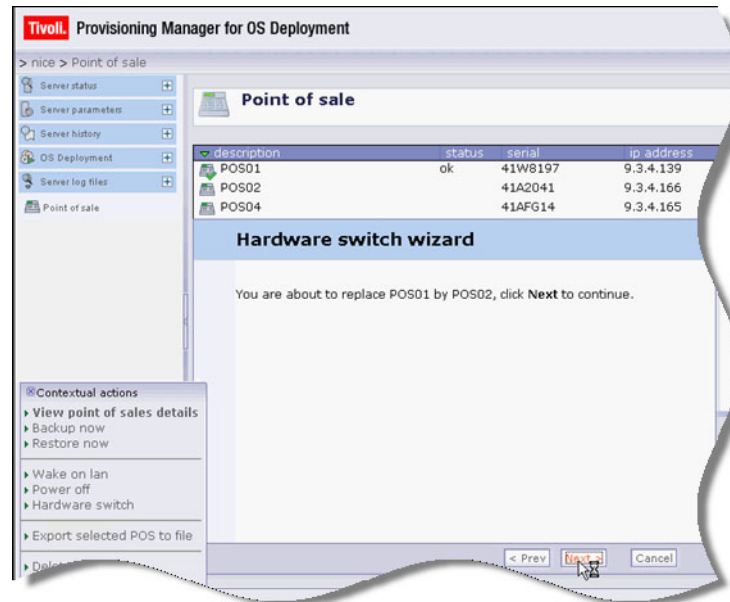

Figure 5-34 Confirming the hardware switch
5. Now the plug-in has all of the information it needs to perform the switch, so it prompts us for confirmation (Figure 5-34 on page 123).